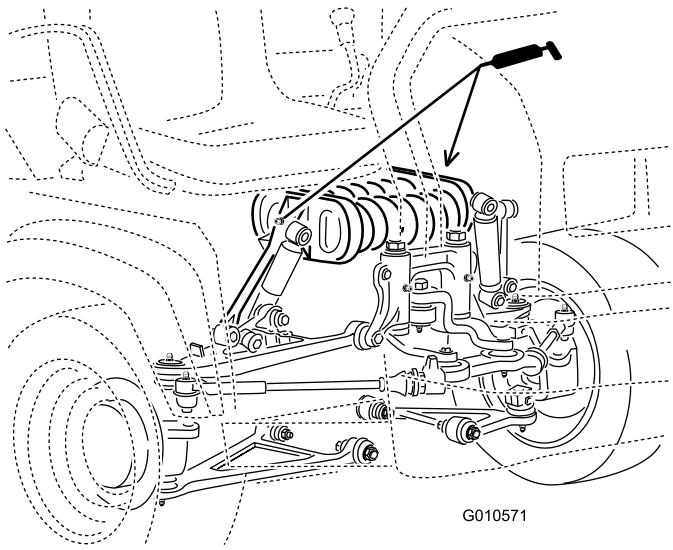

Figure 30
- **Spring tower (2);** refer to Figure 30